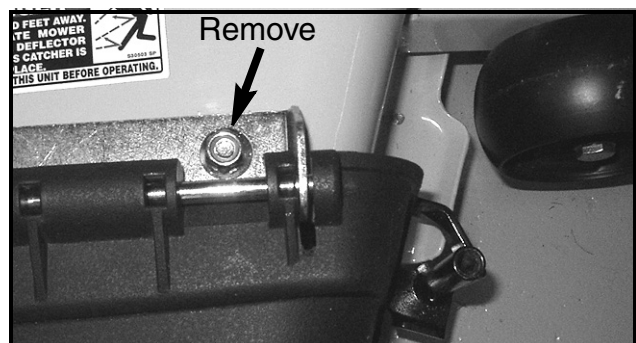

FIGURE 2
6. Using a 9/16" socket and ratchet, remove the front carriage bolt and locking nut securing the discharge chute bracket and chute extension plate to the top of the deck. See Figure 2.